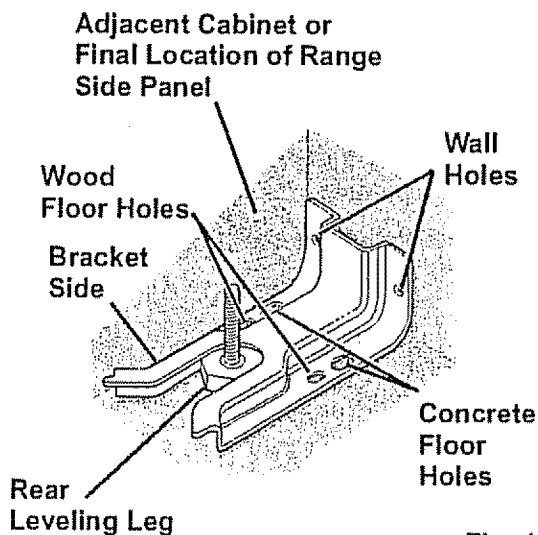

Fig. 1
- B. Use the bracket as a template and mark 2 hole positions on the wall and 2 hole positions on the floor. Use either the wood or concrete floor set of positions, depending on your floor type. See **Fig. 1**.
- B. Check if the **ANTI-TIP** bracket is installed and engaged properly. Remove the kick panel or storage drawer and inspect the **REAR LEVELING LEG**. Make sure it fits securely into the slot. See Fig. 1.